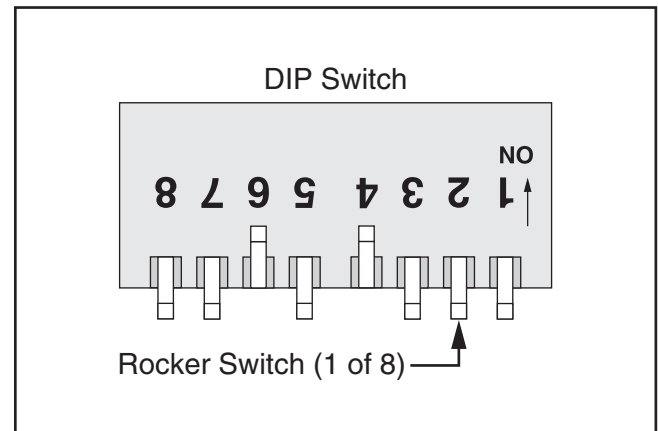

Figure 139. Stepper driver DIP switch configuration.
3. Compare X-axis stepper driver DIP switch configuration to diagram in **Figure 139**.
4. Compare Y-axis stepper driver DIP switch configuration to diagram in **Figure 139**.
5. Compare Z-axis stepper driver DIP switch configuration to diagram in **Figure 139**.